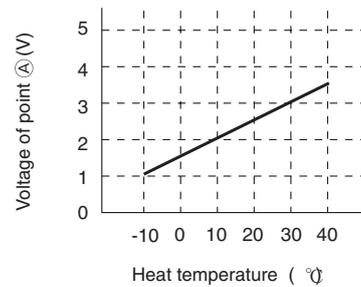

Fig. 9-2
- (1) Preheating
- (2) Low-temperature defrosts at cooling and dehumidification operation time.
- (3) Not working of reversing valve or detection of opening of heat exchange thermistor is controlled.
According to heat exchange temperature, the voltage of point (A) becomes as it is shown in Fig. 9-2.